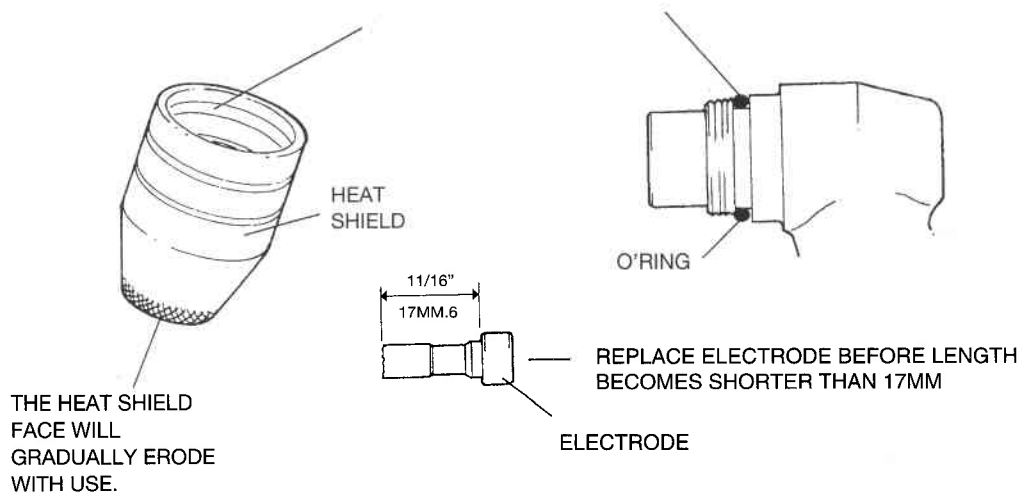

Figure 10 O ring and Electrode Maintenance
4. Apply a small amount of lubricant part no. 1414217 to the heat shield or to the O ring see fig 10.